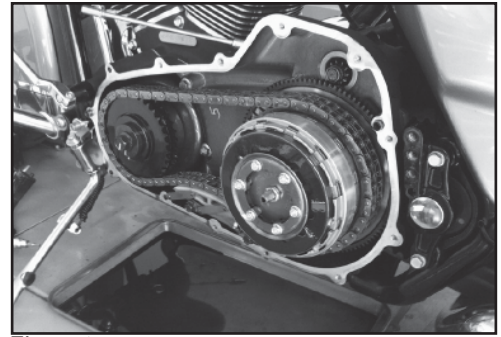

Figure 1
1. Put your bike in neutral. Drain your oil and remove the engine's primary case cover. See Figure 1.